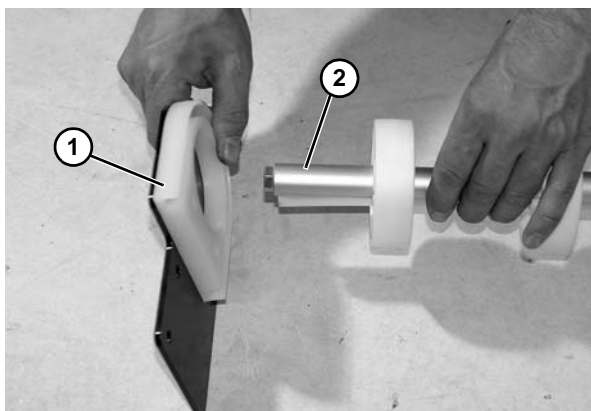

Figure 68
4. Remove end plate (**Figure 68, item 1**) from roller assembly (**Figure 68, item 2**). Remove opposite end.